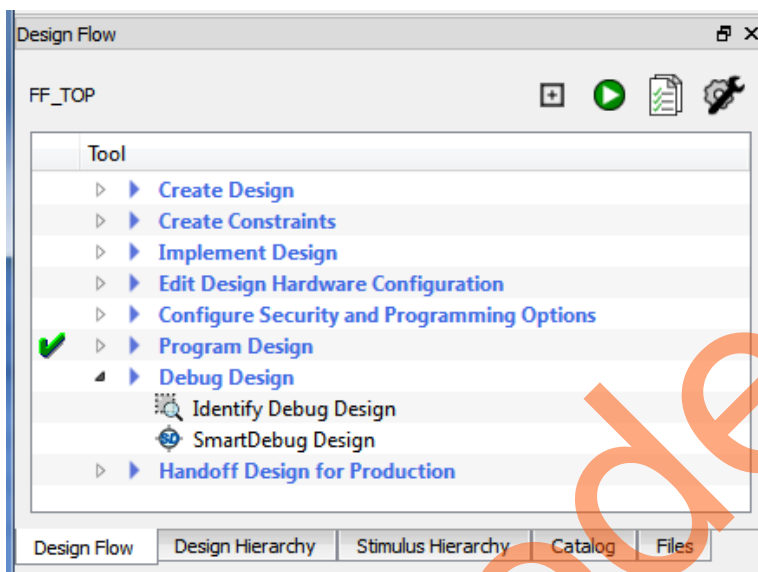

Figure 11 • Launching SmartDebug Design Tools
1. Check the content of the SRAM before entering into the F*F mode. While the device is in the Active mode (non F*F), double-click **SmartDebug Design** entry from the **Design Flow** window as shown in Figure 11.